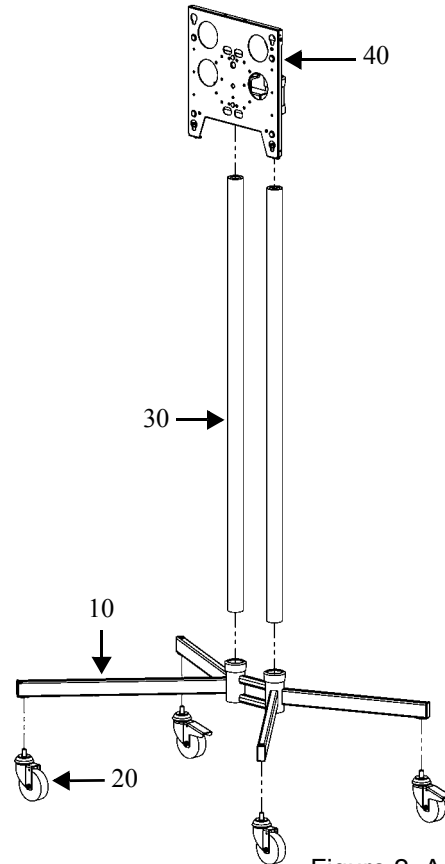
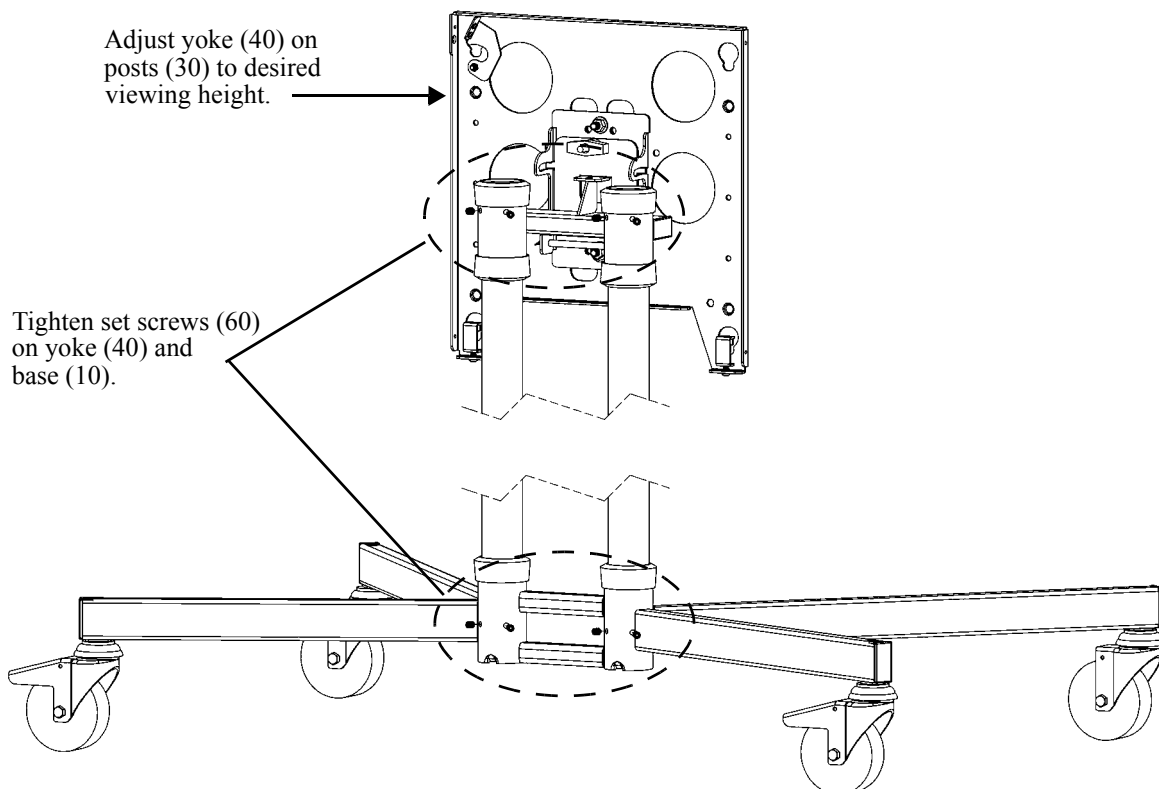

Figure 2. Assemble Cart
Figure 3. Tighten Set Screws
1. Place base (10) upside down. Thread the casters (20) into the base.
2. Place base (10) upright on casters (20). See Figure 2.
3. Install two 2" diameter chrome post (30) into double collar of base (10) and tighten four 5/16-18 set screws (60).
5. Slide adjusting yoke (40) onto posts (30). Secure the yoke at viewing height using four 5/16-18 set screws (60). See Figure 3.